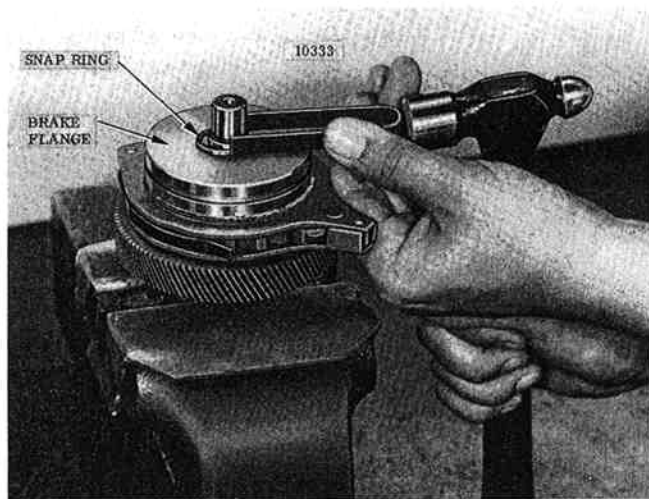

Figure 7-21. Removing Snap Ring from Load Brake Shaft.
(1) Place load brake and clutch assembly, flange up, in a vise equipped with brass or copper jaw plates to protect pinion gear teeth. Remove snap ring of load brake shaft (fig. 7-21).